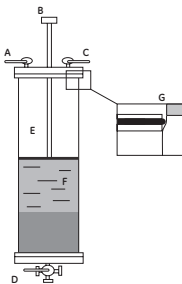

Fig 2. Schematic representation of INdEX column with a 4-port (2-way) valve mounted at the bottom outlet.
2. Pour the slurry carefully into the column. Fill the column with buffer solution up to the edge of the glass tube. Mix the slurry and buffer solution. Allow the medium to settle to below the bevel (G) on the glass tube, see Fig 2.
3. Rest the adaptor against the bevel (G) on the glass tube. Tilt the lid slightly to avoid trapping air bubbles under the net when mounting it on the column. Lower and secure it in place.
4. Connect a pump to the inlet of the hydraulic chamber (A) in-line with a manometer and a pressure relief valve, between the pump and the hydraulic chamber. The manometer should be placed after the valve in the direction of the flow.
5. Open the hydraulic inlet (A) and the hydraulic outlet (C). Start the pump and flush the hydraulic chamber (E) free of air and any residual medium.
6. Close (C) and open the elution inlet/outlet (B) to expel trapped air in the adaptor net.
7. Close (B) and open the elution inlet/outlet (D) to start packing. Apply a pre-defined constant hydraulic packing pressure.
8. When the bed has finally settled (no flow at the column outlet), stop the packing procedure by closing (A) and (D). The adaptor stops moving when the hydraulic force, acting downwards is equal to the mechanical force of the bed, expressed upwards.
10. To unpack the column, connect the outlet from the pump to (B) and open (C) while keeping (D) closed. This will cause the adaptor to rise from the bed surface.